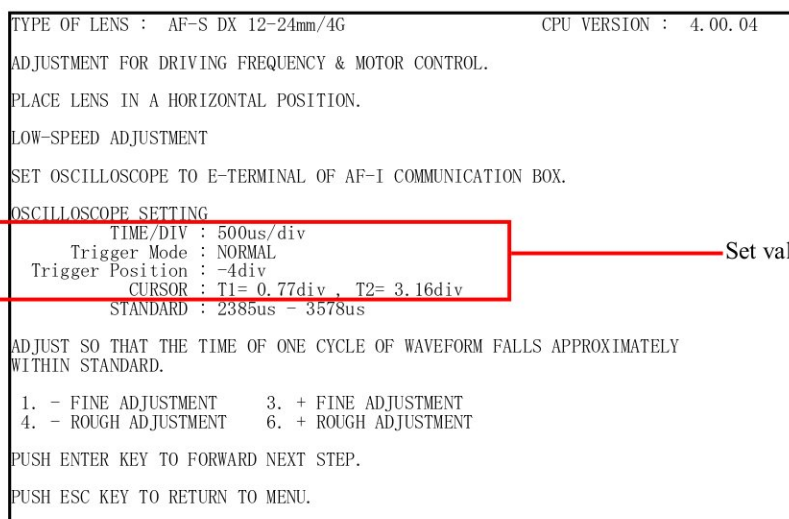

Fig. 2
- Based on “Fig. 2” on the screen, set the low-speed adjustment for lens and oscilloscope.
As shown in Fig. 2, "div" value within standard is displayed on PC screen.
The standard value, TIME/DIV, and CURSOR(T1,T2) varies according to the conditions of low-speed adjustment, high-speed adjustment, and other lenses, etc, so check by Fig. 2 of the PC screen when adjustment is made.